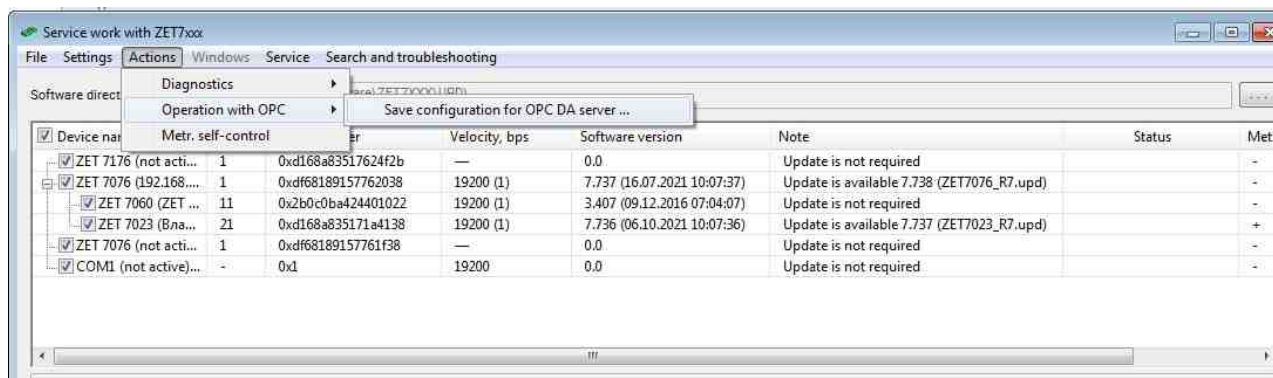

Fig.8.2 "Save configuration for OPC DA server..." option
2. On the control panel in the menu "Actions" - "Work with OPC" you need to  activate the option "Save configuration for OPC DA server..." (Fig.8.2).